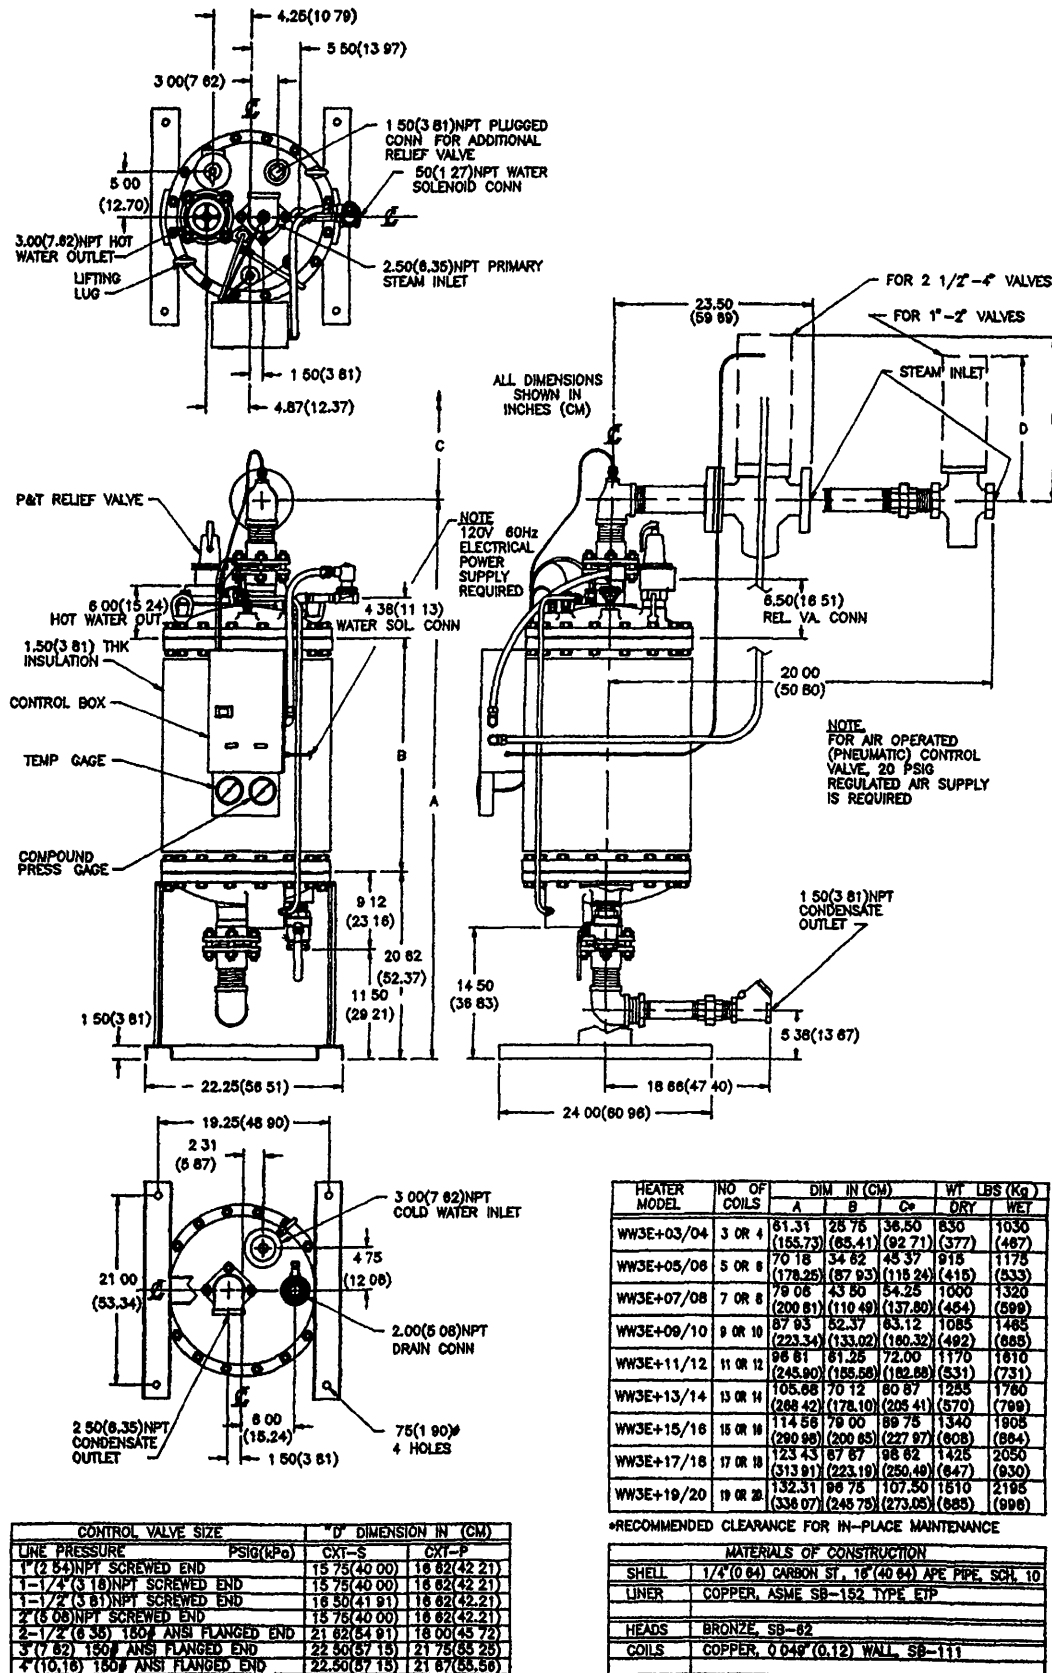
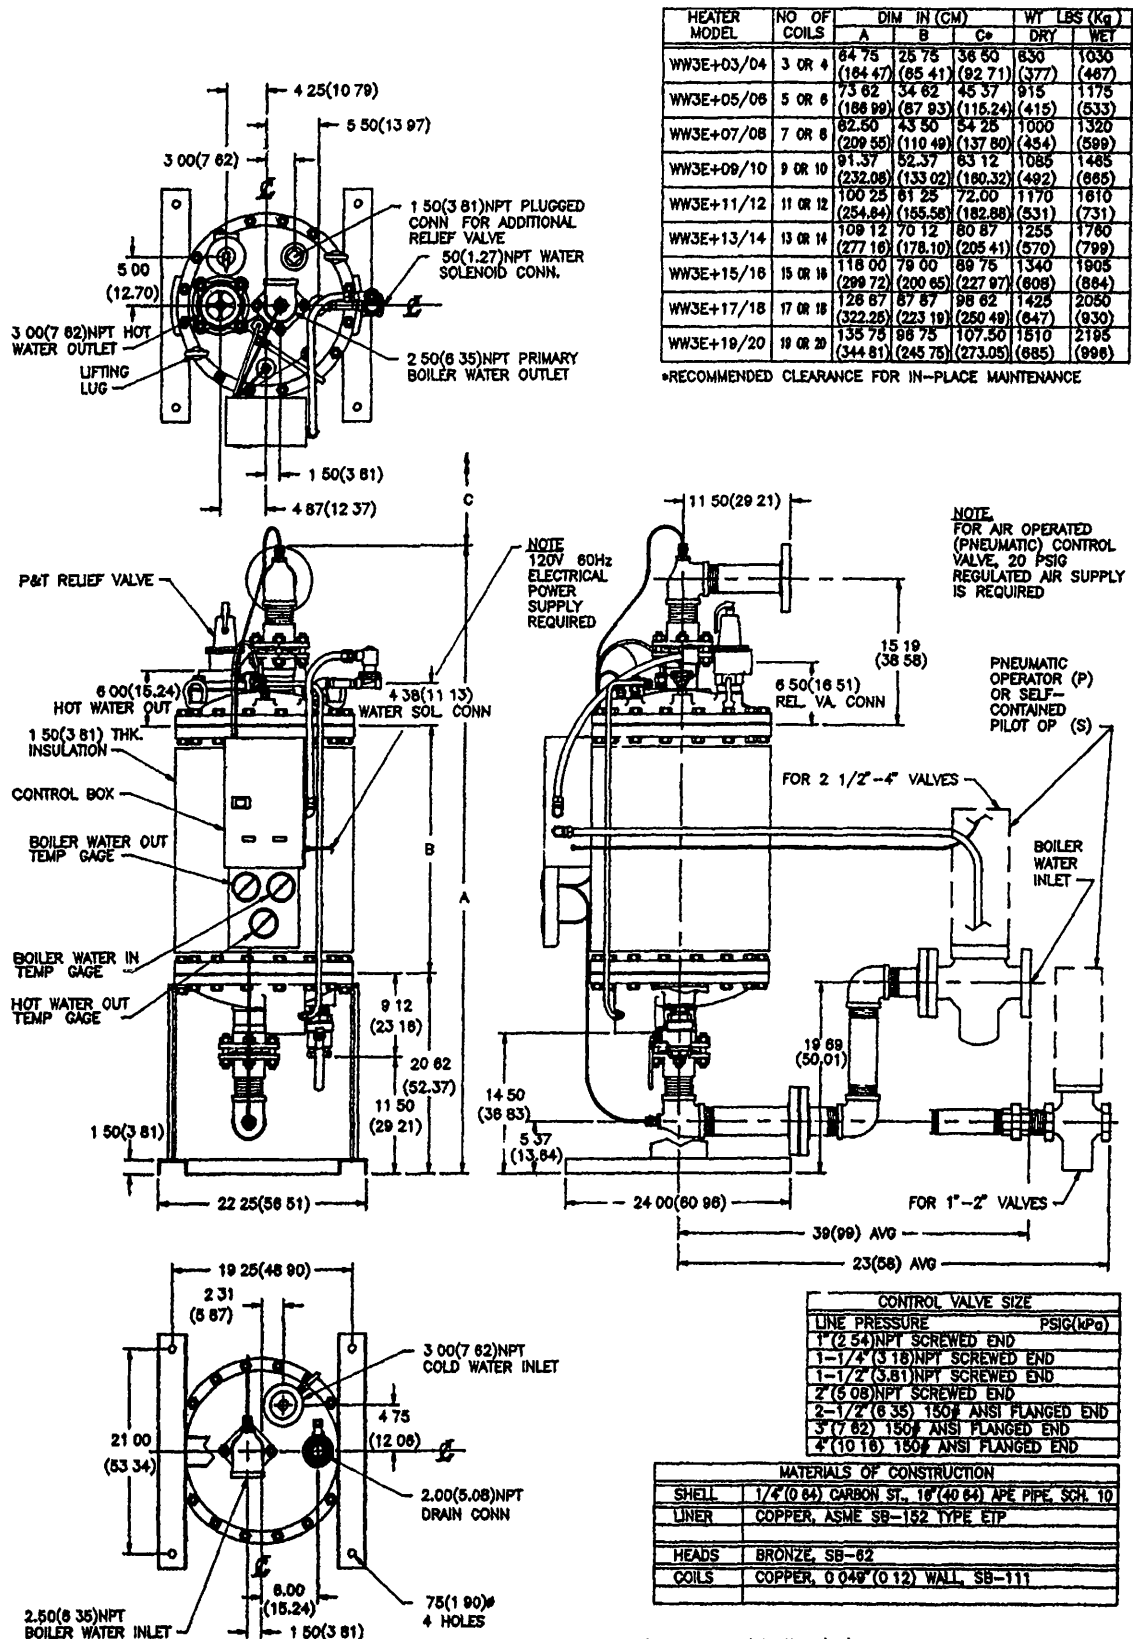
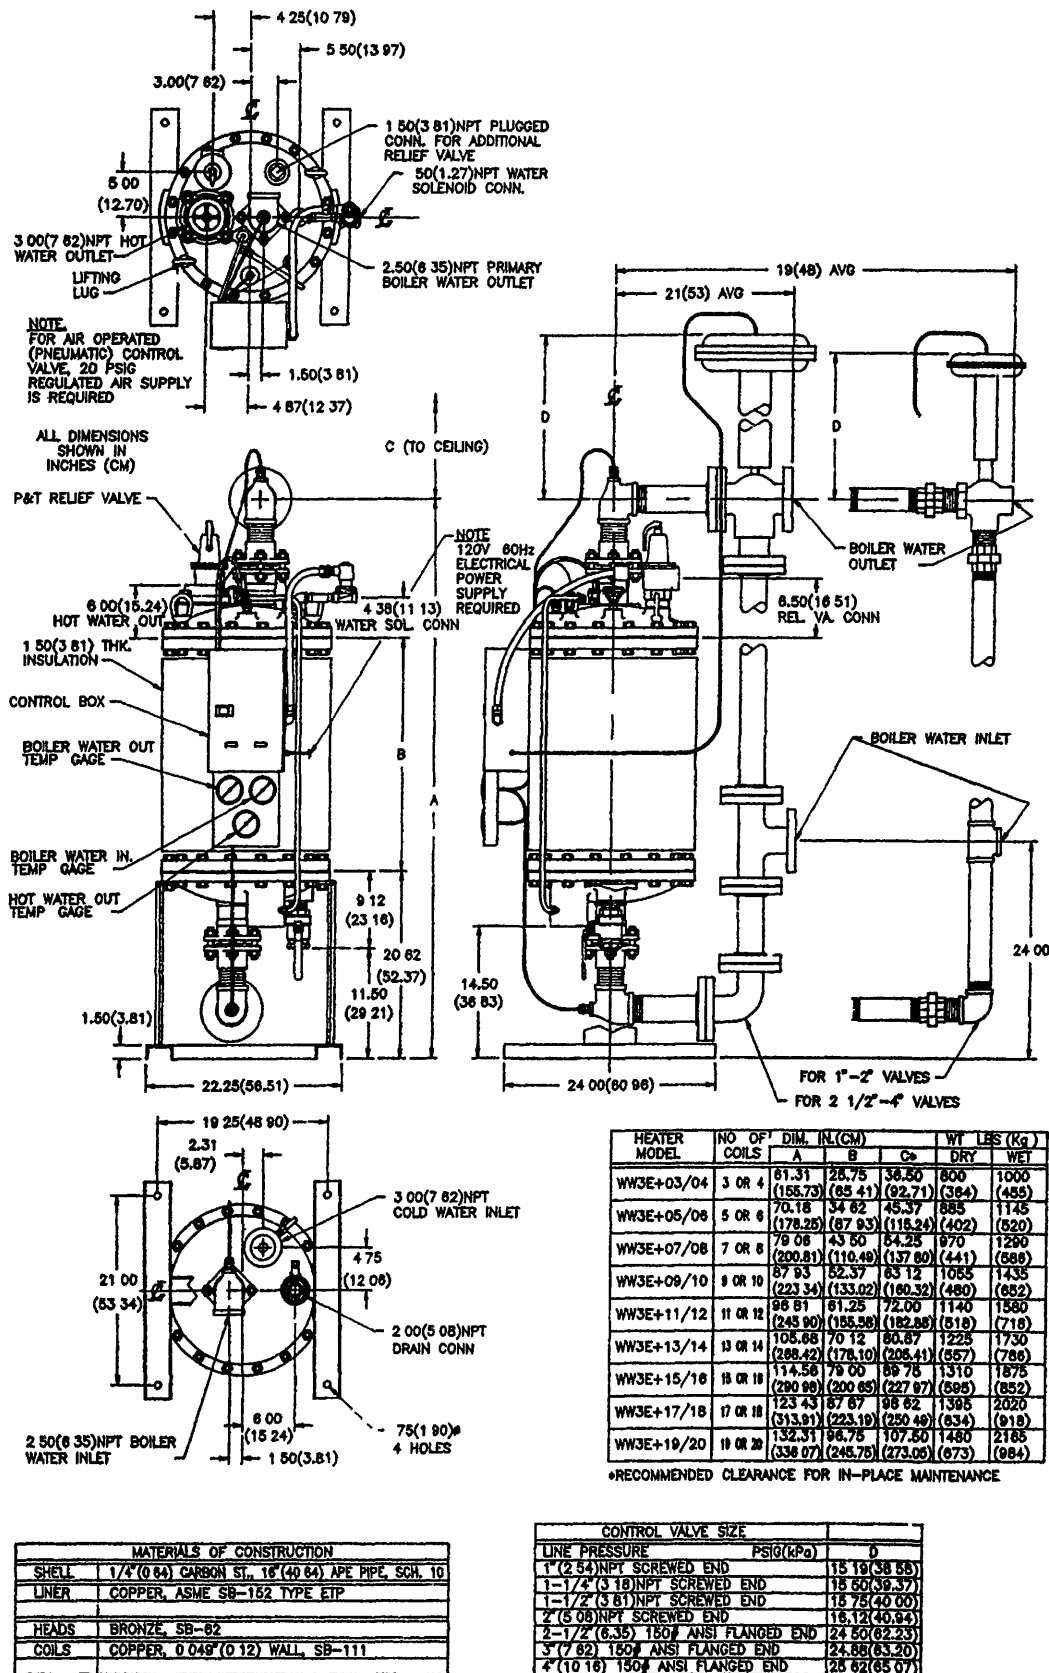

Figure HE-108-1 -- AERCO Steam to Water Packaged Heater, Model SW3E-PLUS
Figure HE-108-2 -- AERCO Water to Water Packaged Heater, Model WW3E-PLUS, with 2-Way Control Valve
Figure HE-108-3 -- AERCO Water to Water Packaged Heater, Model WW3E-PLUS, with 3-Way Control Valve
Accessories included in the AERCO E-PLUS Heat Exchanger Package Assembly are (see Figures HE-108-1, HE-108-2, HE-108-3, HE-108-11, HE-108-13, HE-108-14, and HE-108-15)
1. Dimensions for an AERCO Heat Exchanger (Heater) Model SW3E-PLUS (Steam to Water) are shown in Figure HE-108-1. For Model WW3E-PLUS with 2-Way Control Valve are shown in Figure HE-108-2. For Model WW3E-PLUS with 3-Way Control Valve are shown in Figure HE-108-3.
- b. For Heater connection types, sizes, and exact locations, see Figure HE-108-1, HE-108-2, or HE-108-3 as appropriate for the Heater Model furnished.